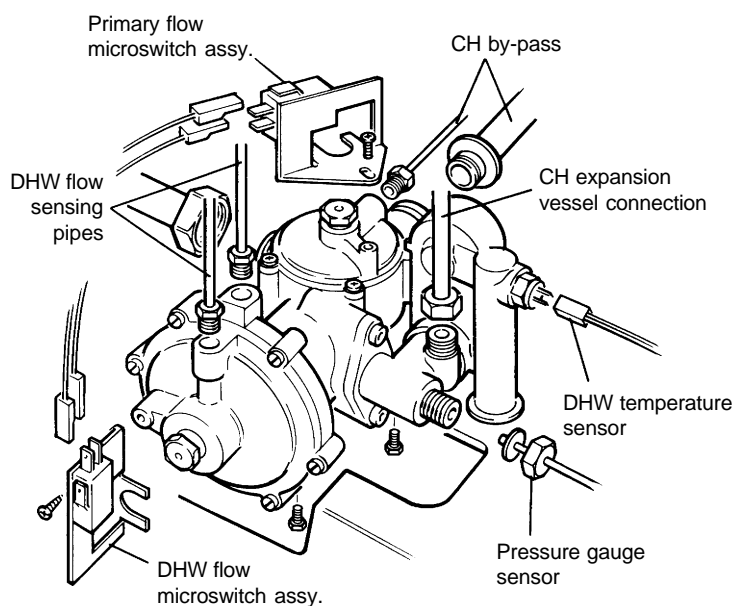

Fig. 38
8.40 DIVERTER VALVE ASSEMBLY - Fig. 38